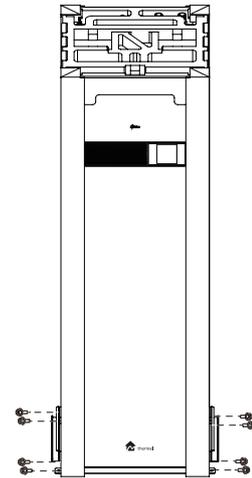

Fig.5-5
- Remove the 8 screws of the sheet metal and remove the sheet metal(Refer to Fig.5-5).